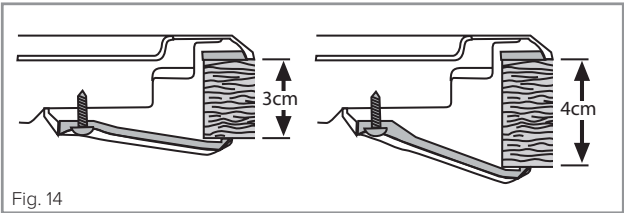

Fig. 14
4. Secure the hob to the worktop using the fixing brackets and screws supplied, as shown in the following diagram (Fig. 14). Remove any excess seal after tightening the brackets.